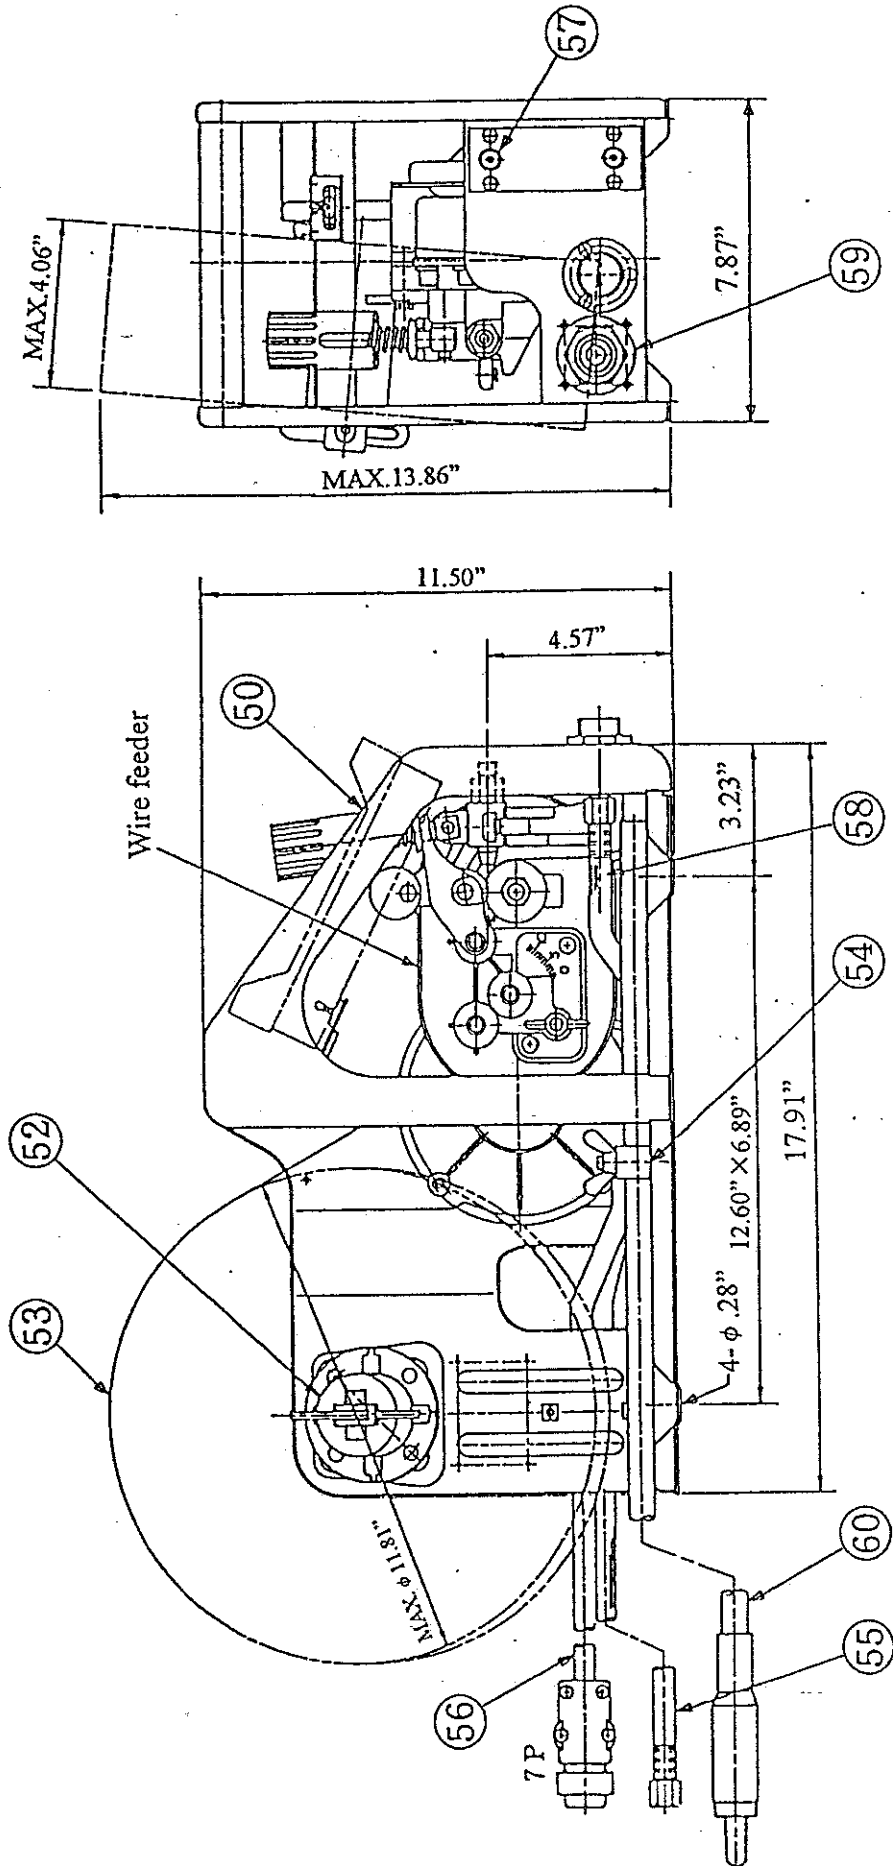

Fig.2 External view of wire feeder
9.1 Wire feeding reduction gear unit (Refer to Fig. 2)